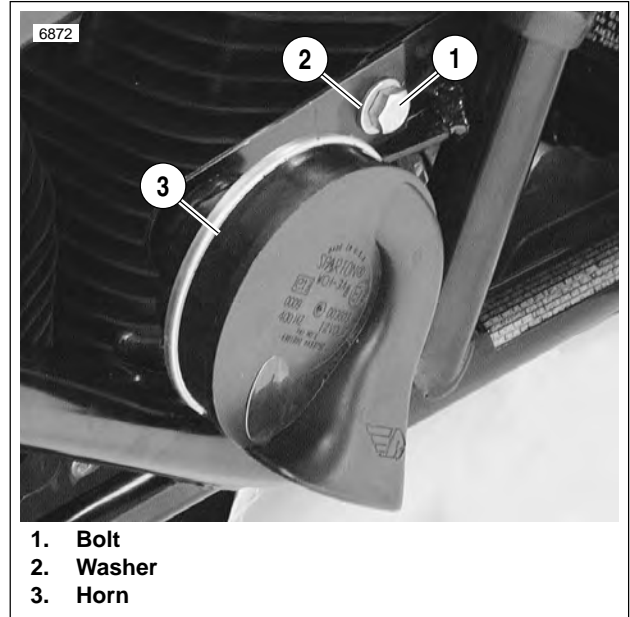
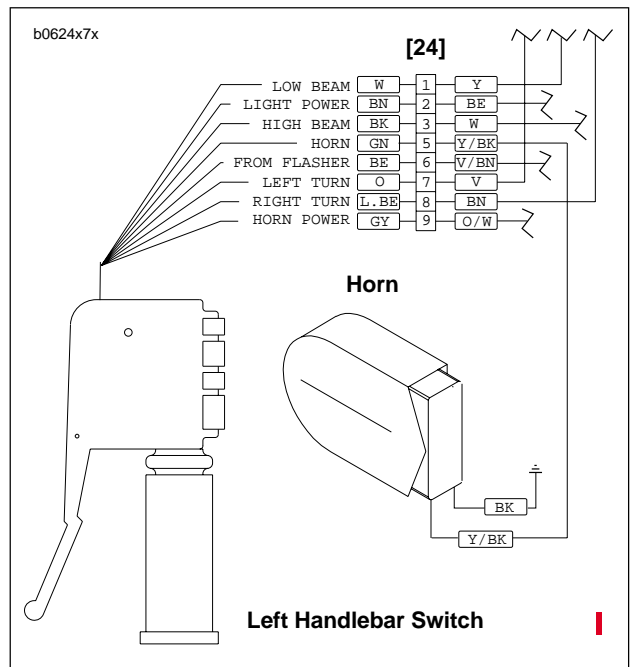

Figure 7-69. Horn Assembly
Figure 7-70. Horn Wiring
4. See Figure 7-69. Remove bolt (1) and washer (2).
5. Remove horn (3) from frame.
6. See Figure 7-70. Detach Y/BK power wire and BK ground wire from terminal clips on back side of horn.
1. See Figure 7-70. Connect Y/BK power wire and BK ground wire to terminal clips on back side of horn.
2. See Figure 7-69. Attach horn (3) to frame using bolt (1) and washer (2).
- a. See Figure 7-70. Remove Y/BK power and BK ground wires from terminal clips.